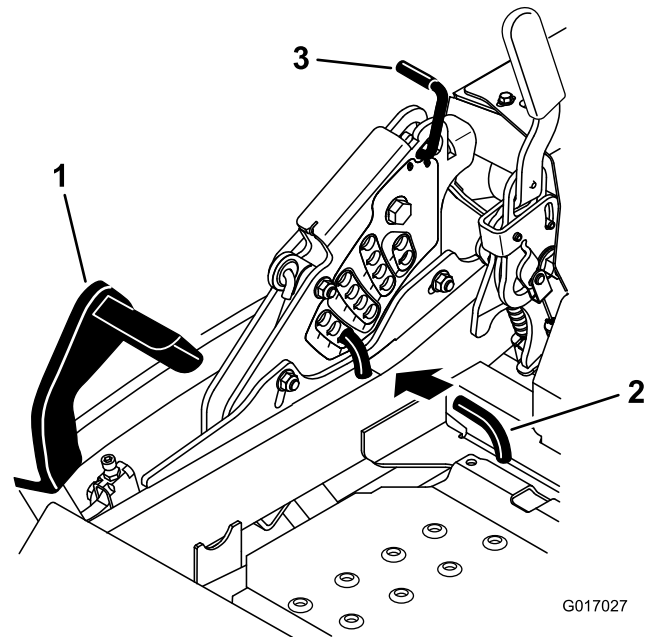

Figure 89
5. Push the deck lift pedal all the way forward and the deck will latch at the 14 cm (5-1/2 inches) transport position (Figure 89).